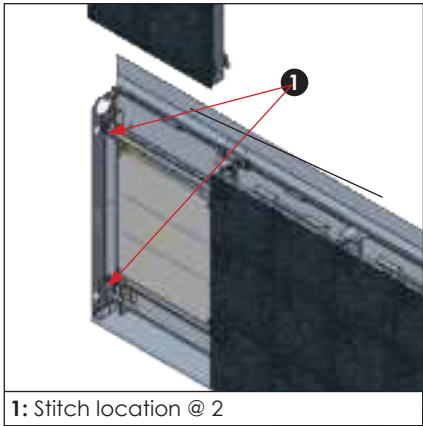

Figure 15: Interconnect Sections
7. Install two stitch bolts (#HC-3829060) through the right perimeter into the adjacent cabinet. Remove the modules or the module pan entirely to access the stitch locations. Refer to **Figure 15**.